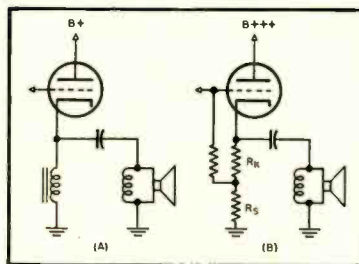

Fig. 5. Two methods of feeding high-impedance speaker from cathode of output stage.
The next case to consider is that of a single-ended output stage with power taken off at the cathode instead of the plate. The d.c. resistance of the voice coil would be a convenient source of the self-bias for the output tube, but as pointed out earlier d.c. cannot be tolerated in the voice coil. Again we can resort to shunt feed, using a resistor or choke and a coupling capacitor. As in the case of plate loading, each has its advantages and disadvantages. If a choke is used, as at (A) in Fig. 5, it would ideally have a d.c. resistance such as to provide the proper self-bias for the output tube.
Using a resistor for shunt feed is not always as simple as might first appear. That is, one cannot simply use a resistor which gives the correct self-bias for the tube, because its impedance will be considerably lower than that of the speaker load. This would mean not only a severe mismatch—since the total a.c. load would be much smaller than it should be—but also the greater part of the reduced power output would be dissipated in the resistor instead of in the speaker. One solution to this difficulty is shown at (B) in Fig. 5, where another resistor R_s is connected between the bottom of R_k and ground. (R_k is chosen for correct biasing of the output tube.) If R_s is made two or three times as large as the speaker load, then the mismatch is reduced to tolerable proportions and the speaker will absorb the greater part of the power output. Note, however, that as R_s is made larger, the B supply must be increased proportionately to make up for the voltage lost across R_s . Actually, this is very similar to what happens when